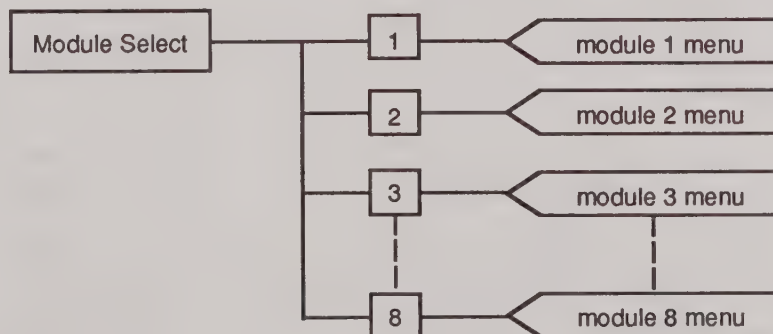

Figure 3-1. **Select** Key Menu Tree
1. **Select** Key (Figure 3-1)